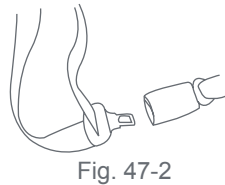

Fig. 47-2
9. A lap/shoulder combination seat belt with **a buckle that can slide freely** along the seat belt may require the use of a locking clip (Fig. 47-2). Check your vehicle's owner's manual to see if the vehicle manufacturer has provided an alternate manner, such as a locking retractor in which to prevent movement of the lap portion of the seat belt.